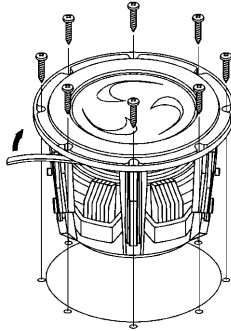

Fig. 2
1. Attach the included gasket tape to the back of the speaker flange as shown in Fig.2 so that the flange is completely covered.